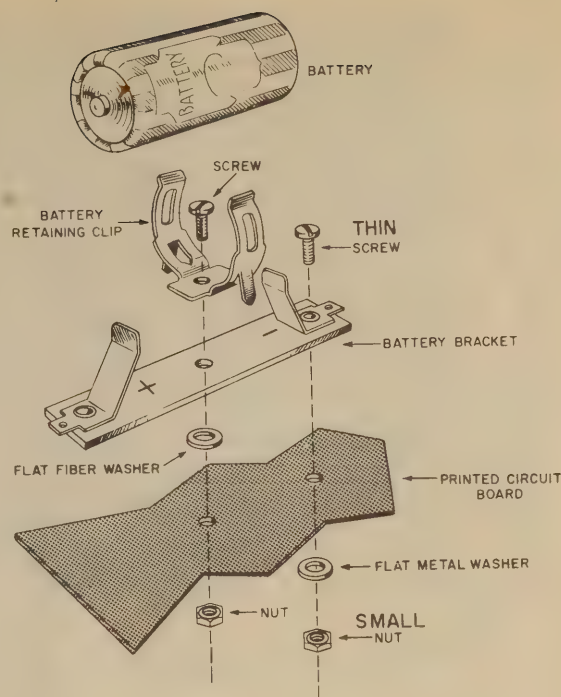

FIGURE 12. MOUNTING THE BATTERY
- ( ) Mount the battery brackets as shown in Figure 12. Insert the 6-32 x 5/16" machine screw through the battery retaining clip through the center hole in the battery bracket, through a flat fiber washer, and through the hole in the printed circuit board. Tighten a nut onto the screw. Use the thin screw through the hole in the end of the bracket near T-1, and through the circuit board. Place a small flat metal washer over the screw on the printed wiring side of the board and tighten a nut over the screw.